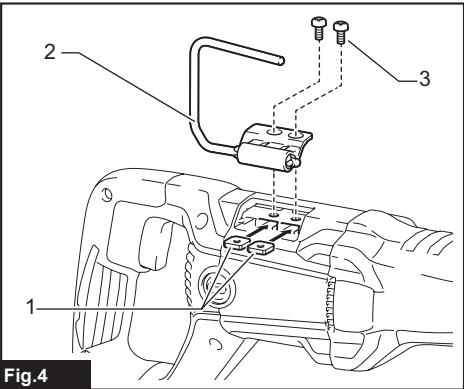

Fig.4
▶ **Fig.4:** 1. Square nut 2. Hook 3. Screw